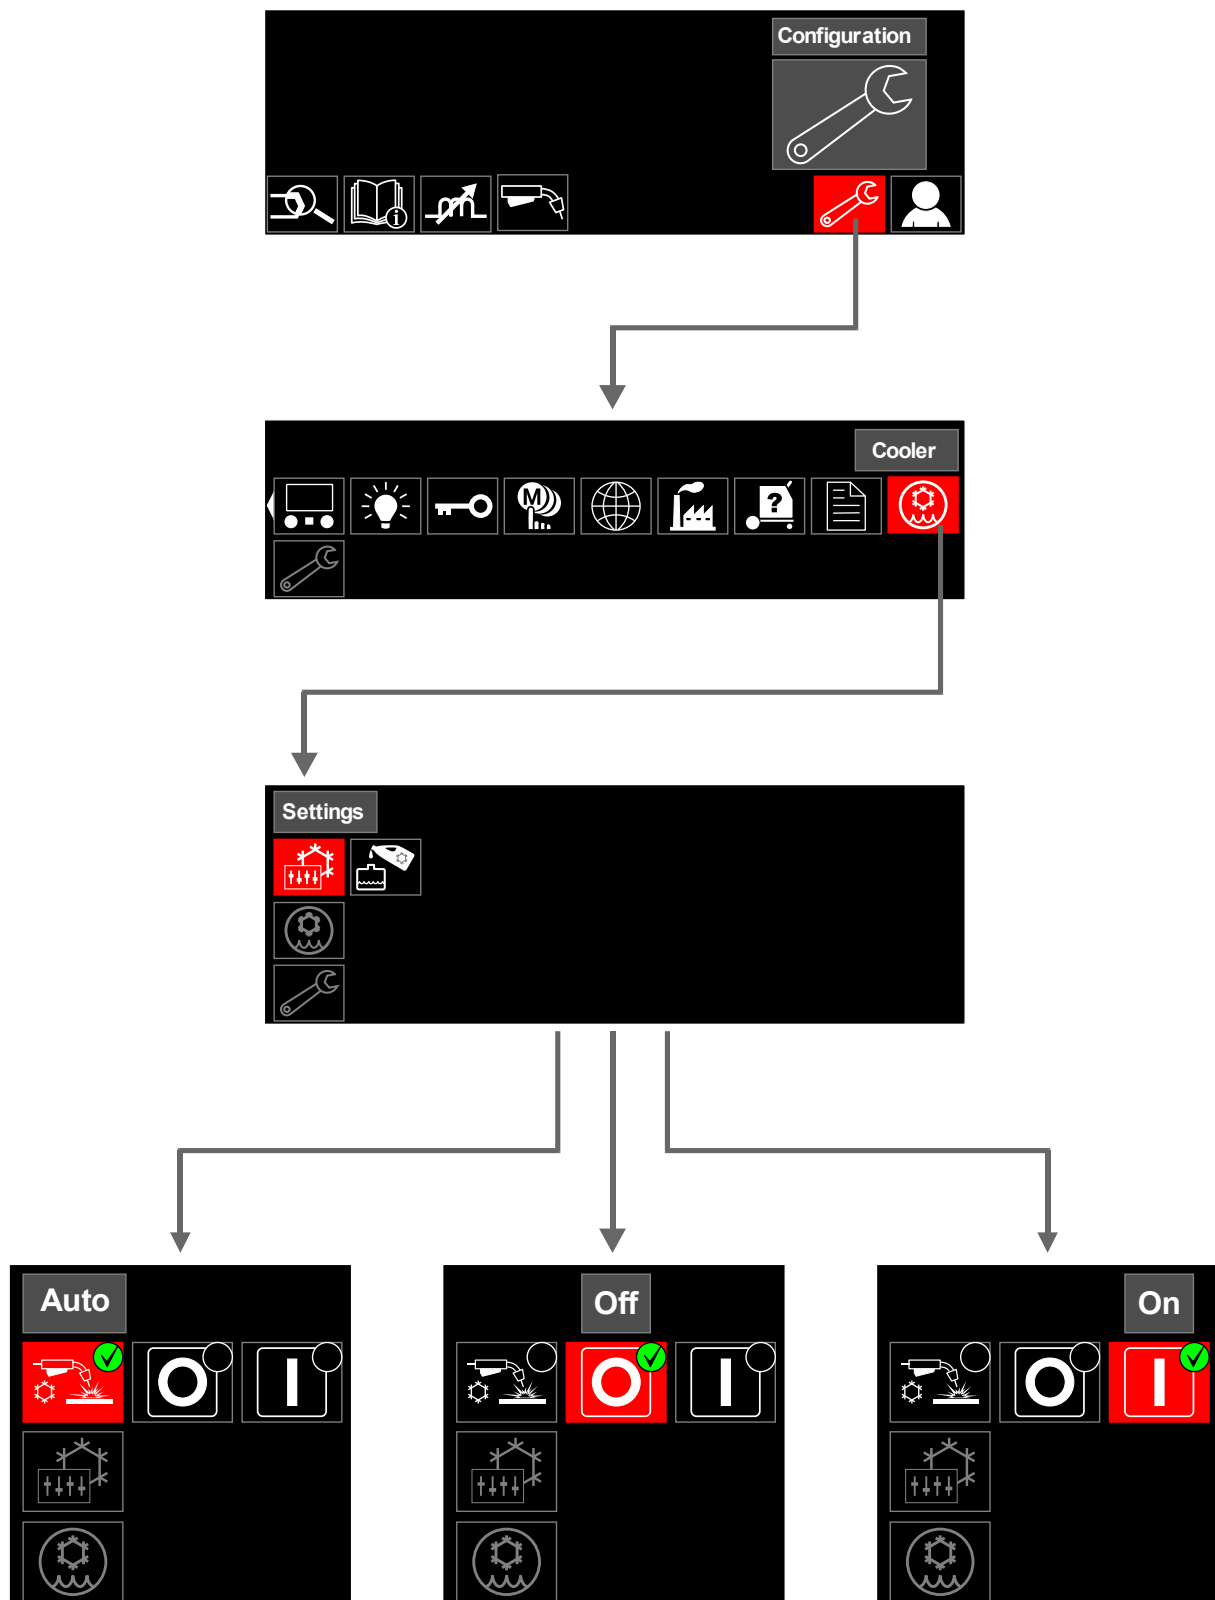

Figure 12
**COOL ARC® 60** can be operate using two interfaces. The standard version (Figure 13) uses two LED displays. While the advance version (Figure 12) uses a 7 " display. The method of operating both interfaces is describe in the operating instructions for the dedicated power source. **COOL ARC® 60** can be set in modes: